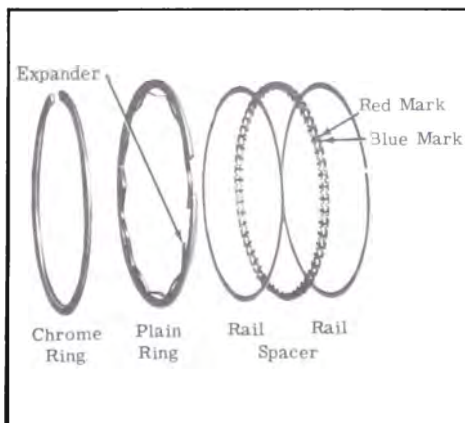

Figure 2-47—425 Cu. In. Engine Piston Rings
**NOTE:** To make certain expander ring does not overlap on 425 cu. in. engines a red and blue mark will be visible on ring. See Figure 2-47.